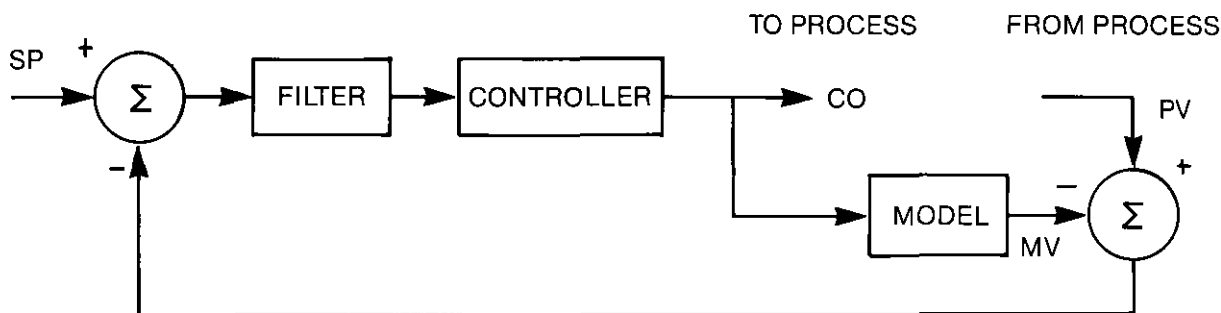

FIGURE 160-1 — Functionality of the SMITH PREDICTOR Function Block
The functionality of the inferential SMITH PREDICTOR block is shown in the block diagram of Figure 160-1. The block compares the process value (PV) to the model value (MV) from the internal model. The controller responds to set point changes and differences between the PV and MV. The filter time constant allows the user to adjust the speed of response, the smaller the time constant, the quicker the time response.